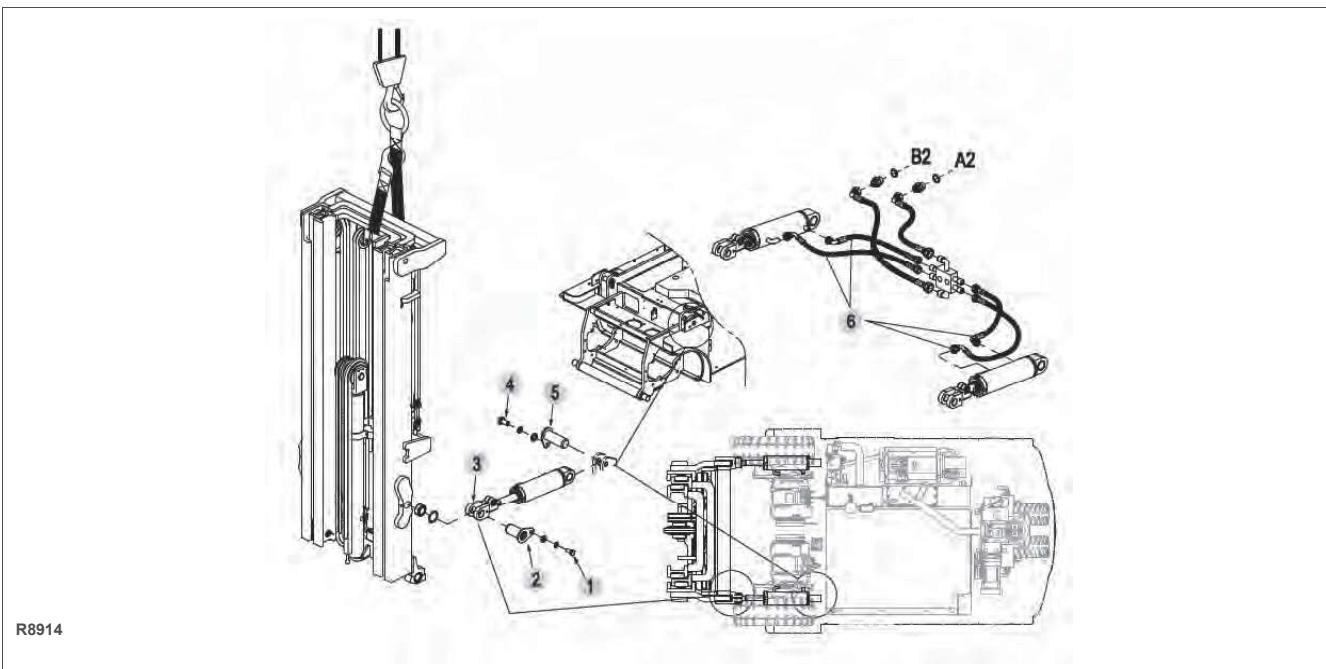

Figure 9-8 Hydraulic Tilt
5. Tag and disconnect hoses (6, Figure 9-8) from the tilt cylinder (3).
6. Remove the anchor bolt (1) from the outer mast and pull out the shaft (2).
7. Support the cylinder and remove the anchor bolt (4) from the chassis and pull out the shaft (5).
8. Remove the tilt cylinder (3).